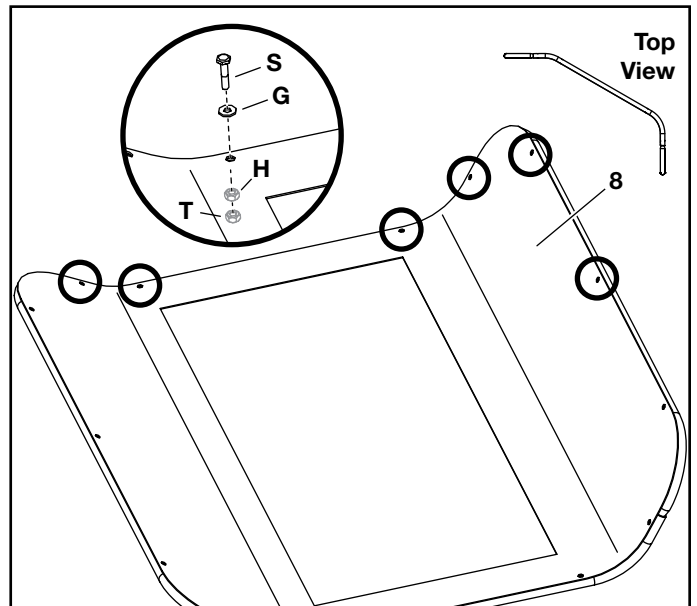

FIGURE 6
STEP 6: (SEE FIGURE 6)
- With the assembled frame lying flat and the greater angle to the right, place a pusher wall (8) on top with the stitching facing the frame.
- Align the pusher wall holes with the holes in the frame and attach using six hex bolts (S), washers (G), and hex nuts (H) in the holes shown.
- Add an acorn hex nut (T) to each hex bolt and tighten. This is now the right pusher wall assembly with the hex bolts at the top.